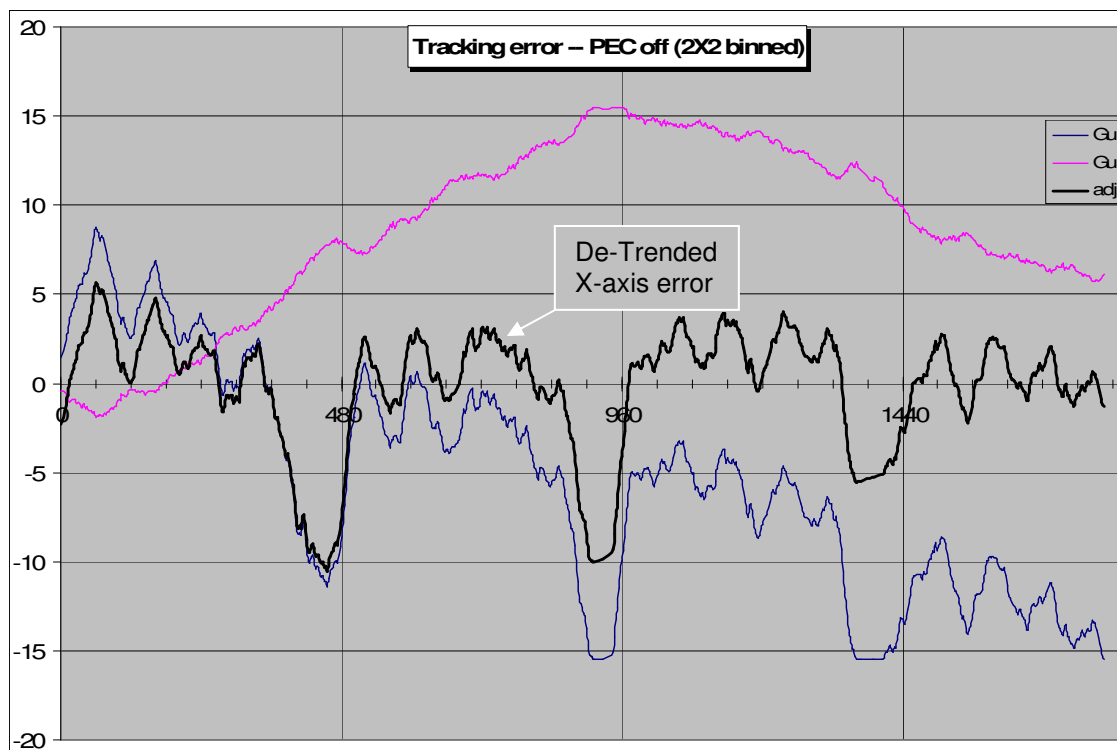

Figure 20: Tracking error (scale = 2 arc-sec per pixel)
5.2 Tracking with PEC: I used PECTool to do a 6-run training of the Periodic Error Correction memory, then another unguided tracking test, this time with PEC playback active. The results are shown in Figure 20. (Note that this graph is done with 1X1 binning, hence 1 pixel $\approx$ 1 arc-sec.)